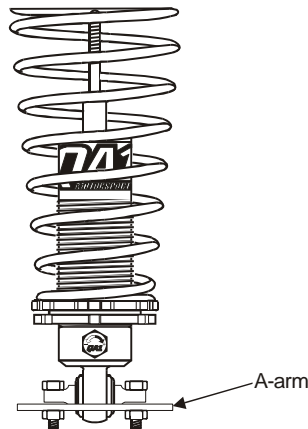

**Figure 1**
- Get started by taking a ride height (RH) measurement on both sides of the car (see figure 1). This ride height measurement should be taken from the top of the wheel well opening down to the ground. It is recommended to mark the wheel well opening as a reference point for later measurements.